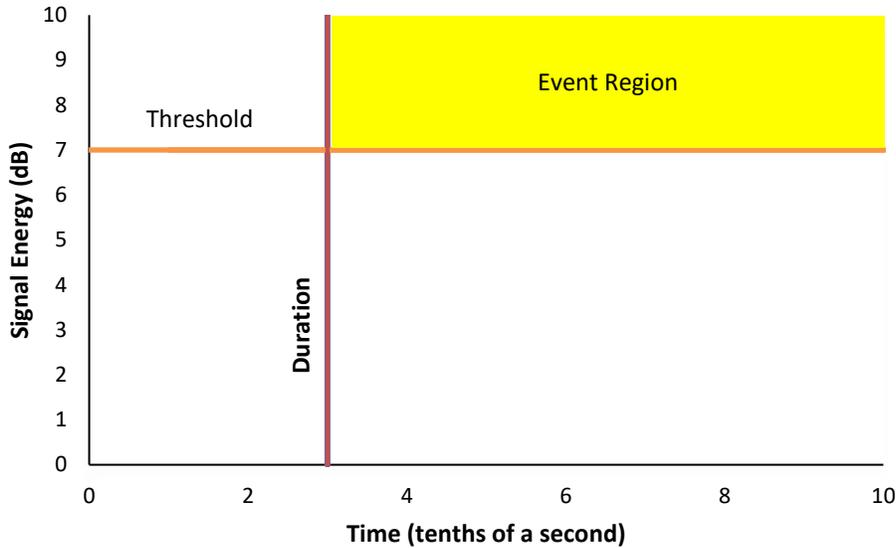

Figure 2 – Duration and threshold define event qualifying signals
**Duration** determines the length of time a signal must last to generate as an event. **Duration** helps distinguish intruders from nuisance signals and differentiates detection of the two intrusion classifications. Figure 2 displays the interaction between the threshold and **Duration**.